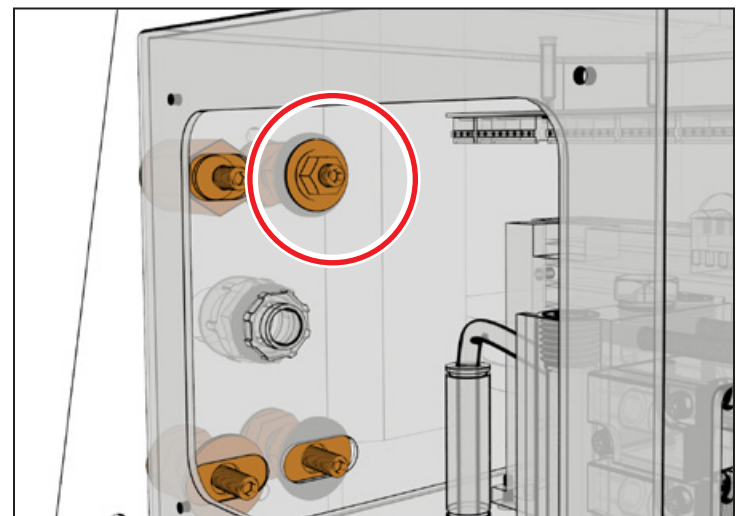

Figure 10
10. On the top right standoff, re-install the washer and flange nut removed in Step 5 (see **Figure 10**).